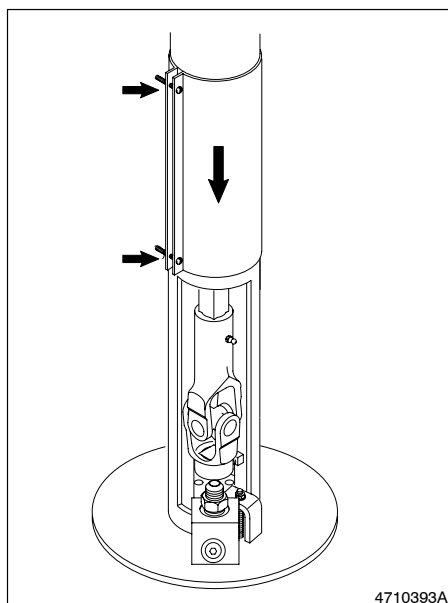

Fig. 7-37 Lowering the Column Collar
7. See Figure 7-37. Loosen the two round-head screws and machine hex nuts that secure the column collar in place. Slide the collar down until it seats on the follower plate across the drive shaft-to-pump connection. Tighten the round-head screws and hex nuts to secure the collar in place.